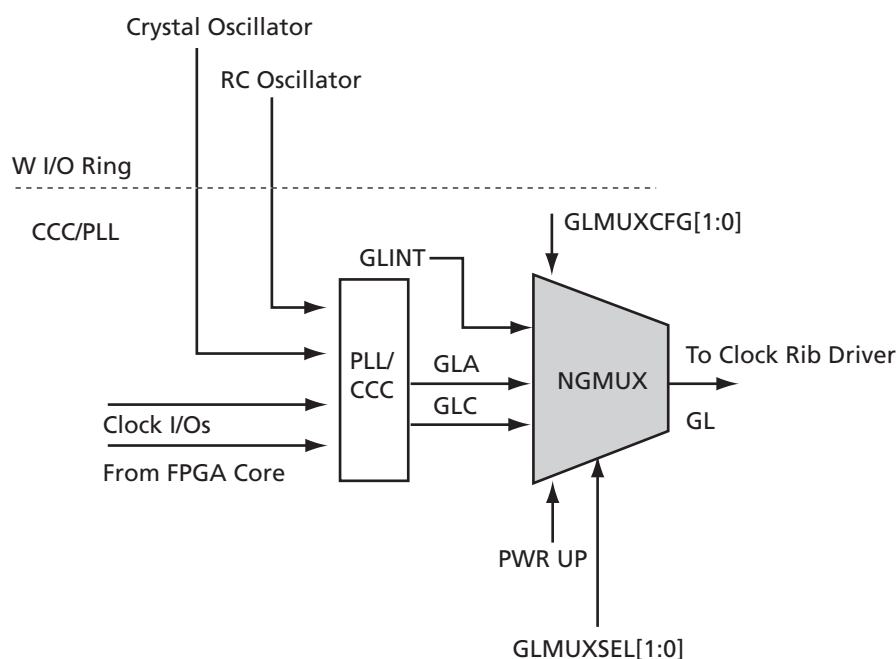

Figure 2-24 • NGMUX
in Figure 2-24. The GLMUXCFG[1:0] configuration bits determine the source of the CLK inputs (i.e., internal signal or GLC). These are set by SmartGen during design but can also be changed by dynamically reconfiguring the PLL. The GLMUXSEL[1:0] bits control which clock source is passed through the NGMUX to the global network (GL). See Table 2-14.